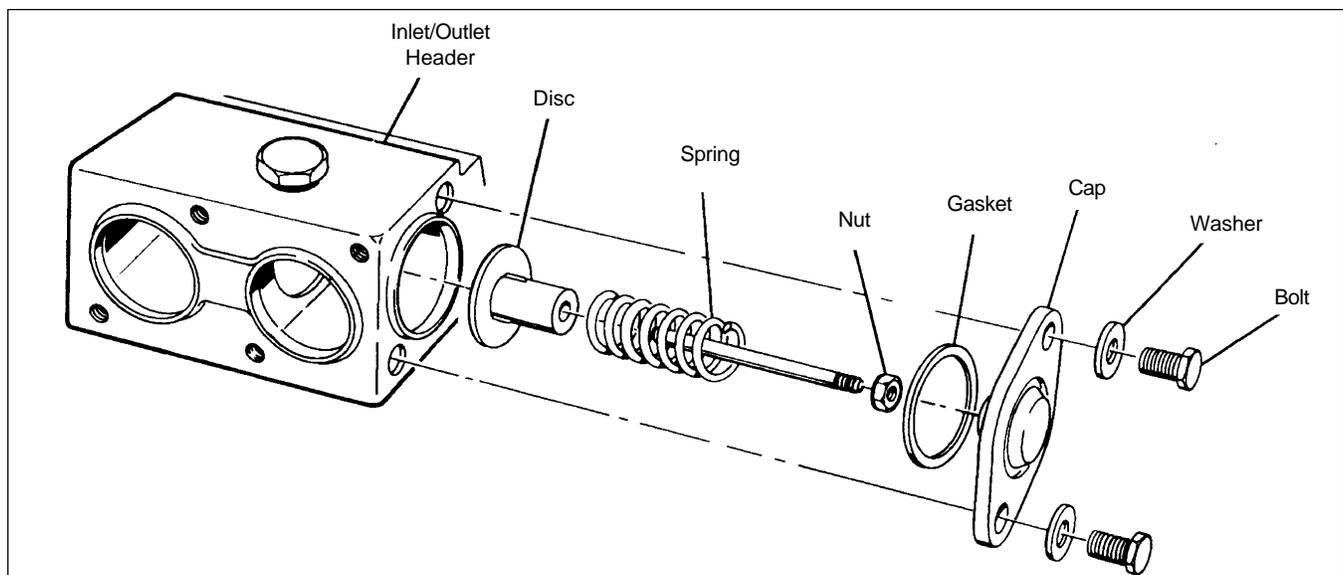

Figure 29. Flow control assembly.
3. Make a visual inspection of the disc. If the disc is not properly seated, or does not move smoothly back and forth on the shaft, disassemble the valve and overhaul it (see Fig. 29).